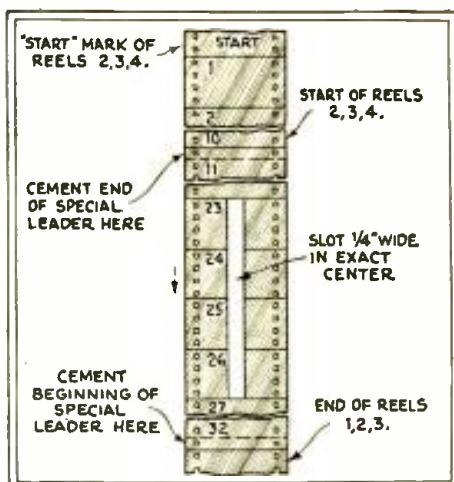
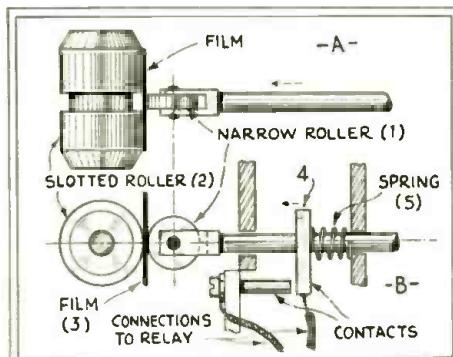

Fig. 1
Fig. 2
over described here and pictured in Fig. 1 automatically accomplishes the changeover from disc to disc; and the length of one uninterrupted showing therefore depends on
For the sake of clarity, it may be well to outline briefly at this point the operation of the double turntable. Short strips of slotted "leader" (length of blank film) are cemented between the four 1,000-foot lengths of film (See Fig. 1) and, as these slotted portions pass over a specially constructed roller in the projector, (diagrammed in Fig. 2) an electric circuit is closed through a magnetic-clutch mechanism (Shown at 1, Fig. B.). The actuation of the clutch immediately causes the incoming turntable to start up in exact synchronism with each succeeding 1,000-foot length of film. The electrical circuit by which this is accomplished is shown in Fig. 3. As soon as the changeover has been completed, the outgoing turntable is then manually disengaged from its driving source and allowed to stop in order to change the record and place the pickup needle at the "starting point" in readiness for the next changeover.
When the end of the first 1,000-foot length of film has been reached, the slotted leader passes between the rollers shown in detail in Fig. 2. The narrow roller (1) projects through the slotted portion of the film (3) during its passage, thus bringing together the two contacts shown in the picture and closing a primary circuit through a relay. The operation of the relay causes the clutch magnet to be momentarily energized which trips the armature; thus allowing the clutch shaft to spring back and cause the incoming turntable to start. Since the slotted strips of film are cemented in a given relation to the "start frames," the incoming turntable will commence revolving at the same instant that this frame is passing through the picture gate. Accurate synchronization between the disc and film is thus assured.
A view of the film-rollers between which contact is effected, as shown in diagram form above in Fig. 2 (The figures in the two diagrams correspond). At the left will be seen the central slot, in the vertical film, by which the mechanism shown in Figs. B and 3 is started.